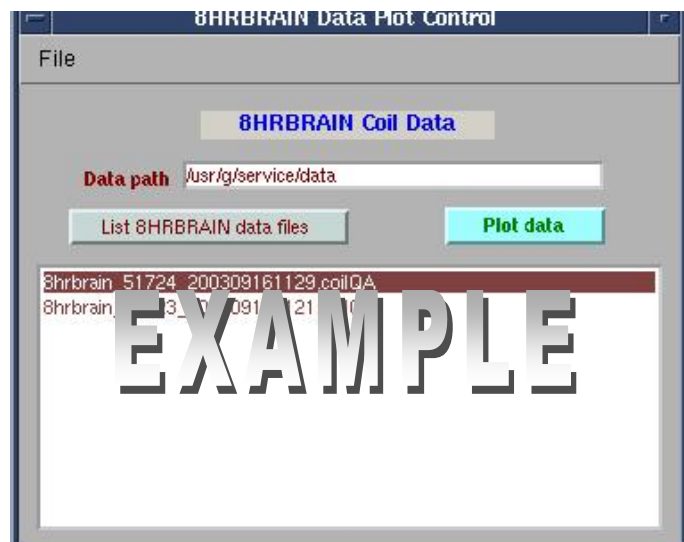

Figure 13: Data Plot Control window.
Step 6 – The Data Plot Control window opens (see *Figure 13*).